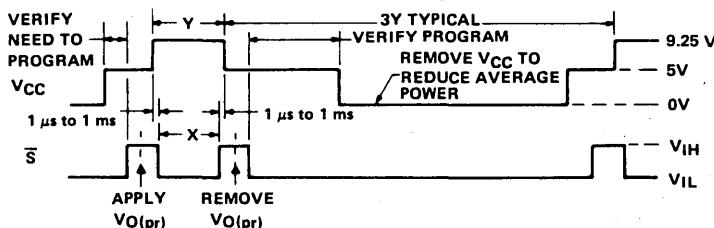

FIGURE 2 – VOLTAGE WAVEFORMS FOR PROGRAMMING
6. Apply a low-logic-level voltage to the chip-select input(s). This should occur between $1\text{ }\mu\text{s}$ and 1 ms after V_{CC} has reached its 9.25 level. See programming sequence of Figure 2.